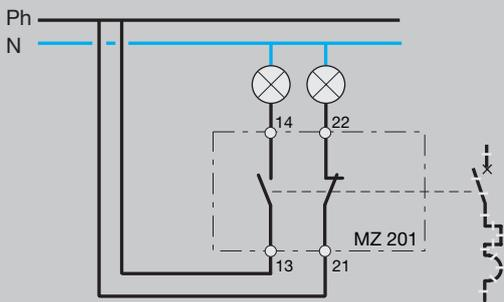

Fig 9
**Auxiliary contact MZ201 (fig 9)**